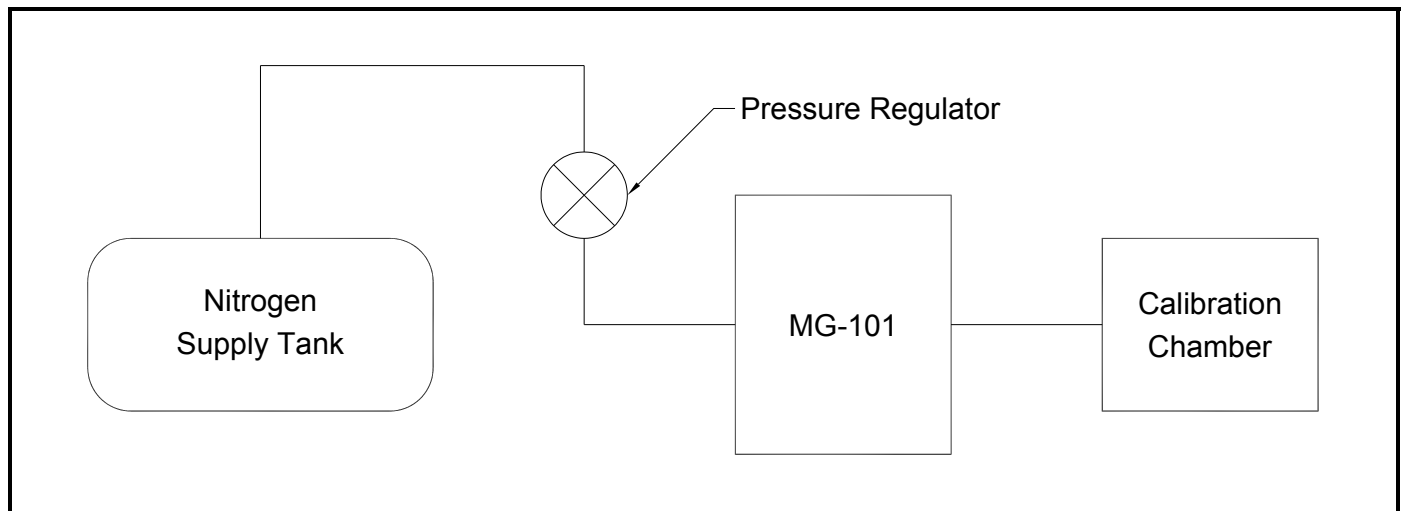

Figure 4: A Typical MG-101 Test Setup
7. Connect the nitrogen supply to the MG-101 inlet fitting via the stainless steel pressure regulator using, 1/4" OD stainless steel tubing (see *Figure 4* below).
**Note:** The rotameters are dual-range, floating-ball types, each having both a steel ball and a glass ball. When reading the rotameters be careful to watch *either* the steel ball or the glass ball (see *Figure 4* below) as directed (numbers in tables are followed by an **S** or a **G** to designate the ball material).